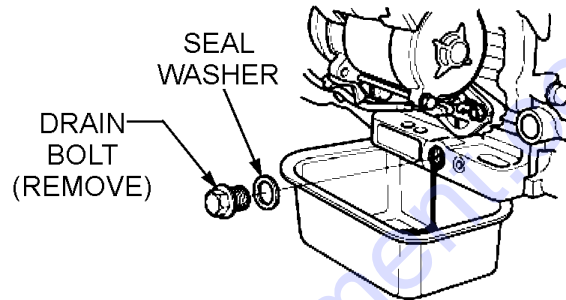

**Figure 29. Cleaning Foam Element**
- Clean the foam air filter (Figure 29) element in warm, soapy water, rinse and allow to dry thoroughly, or clean with a nonflammable solvent and allow to dry. **DO NOT** pour any type of oil into the foam element.